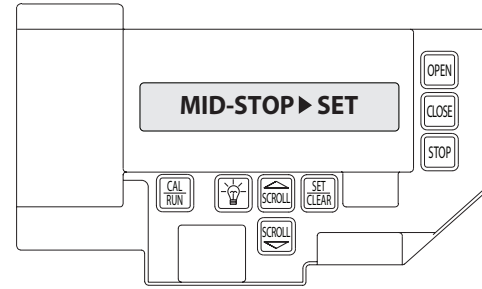

Figure 14
- 3) Press SCROLL  until display reads "MID-STOP >CLR" **Figure 14**.